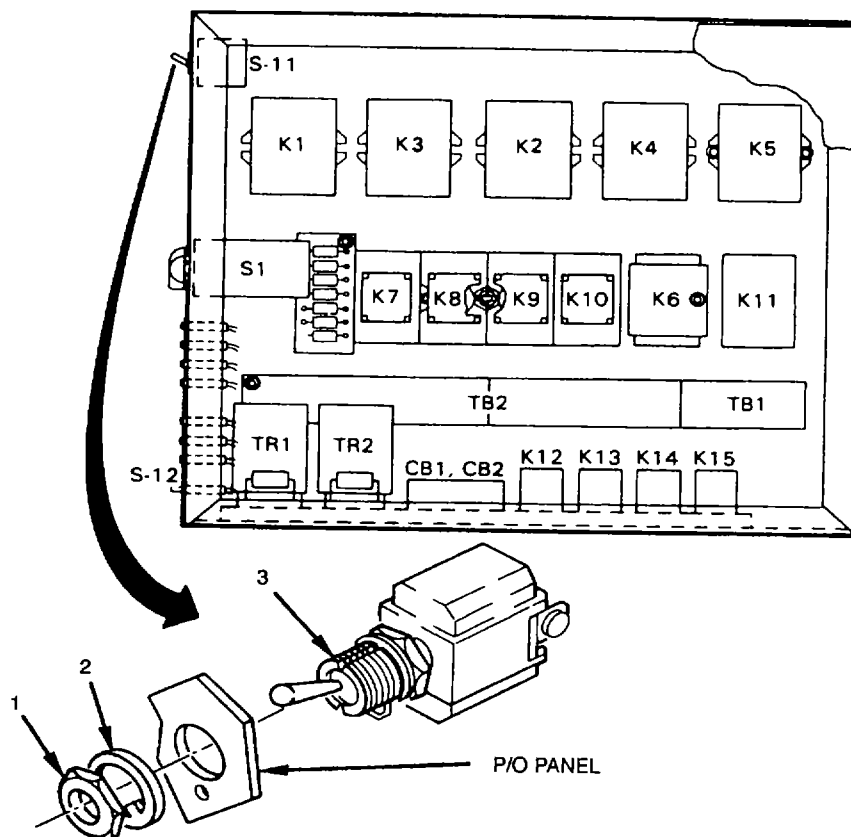

Figure 4-20. Prime Unit Select Switch (S11)
- c. Check switch (3) for signs of overheating or other visible damage. If wires are damaged, replace as necessary (see fig 4-20).